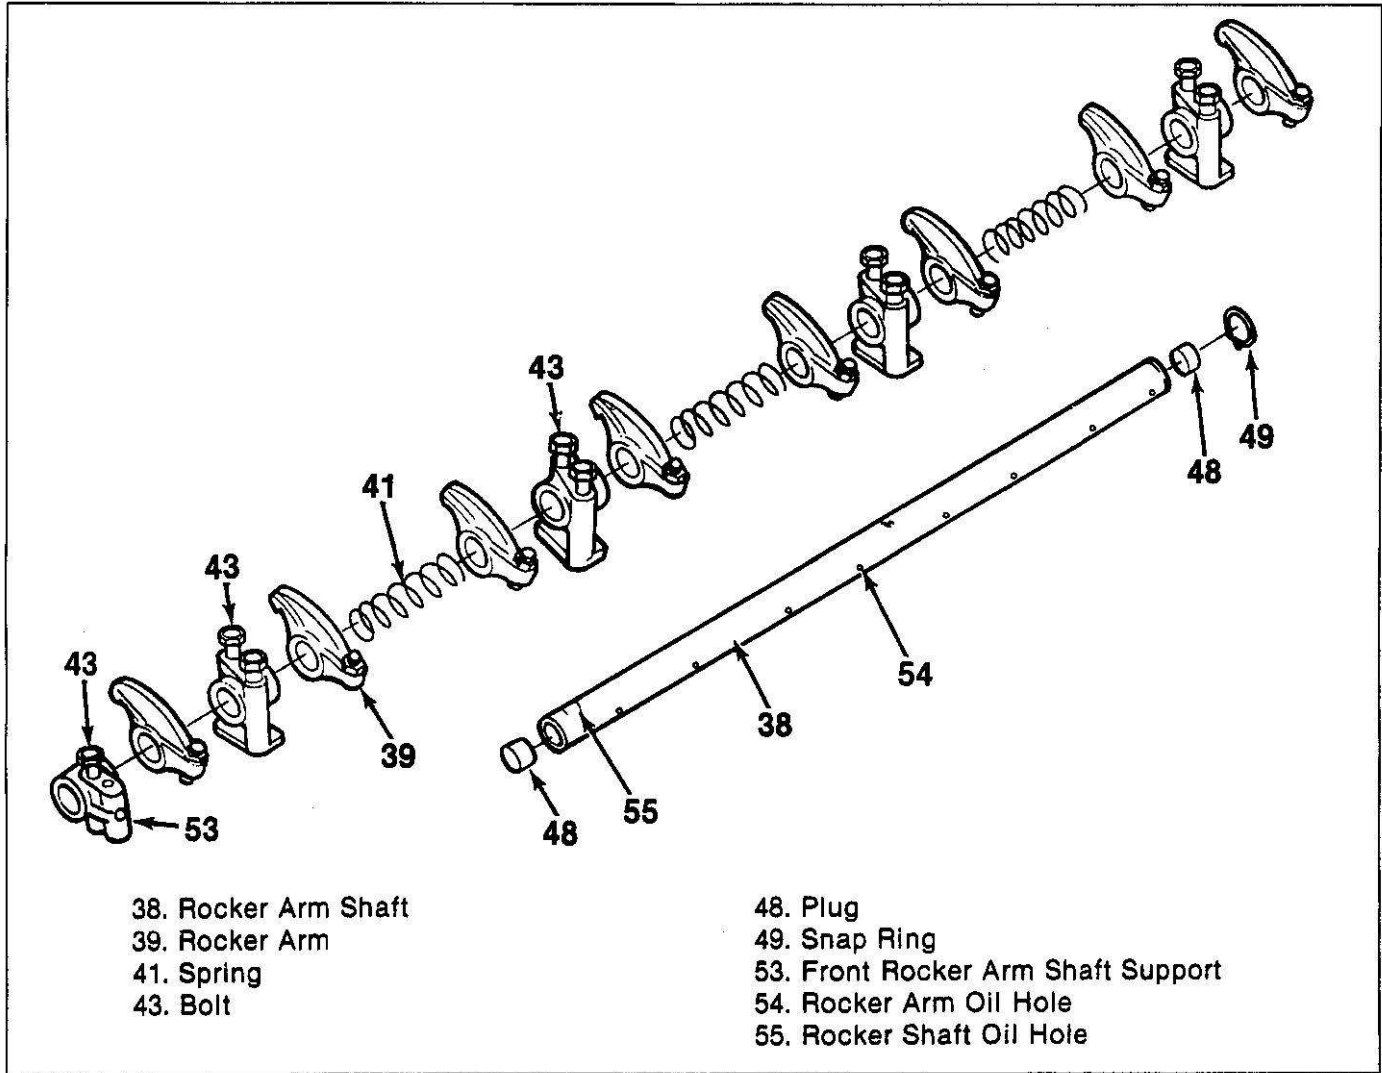

Figure 23. Assembling Rocker Arm Shaft
- The parts must be assembled so that the rocker arm shaft (38) oil holes (54) face down (toward the cylinder head) (figure 23).